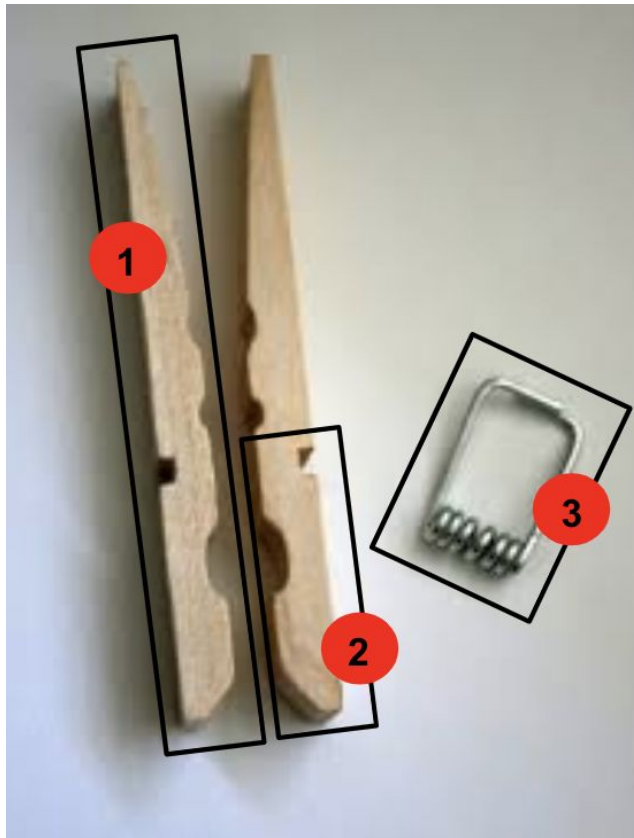

Figure 7
13. Disassemble clothespins (3 parts per clothespin: spring, 2 wooden halves) (See Figure 7)